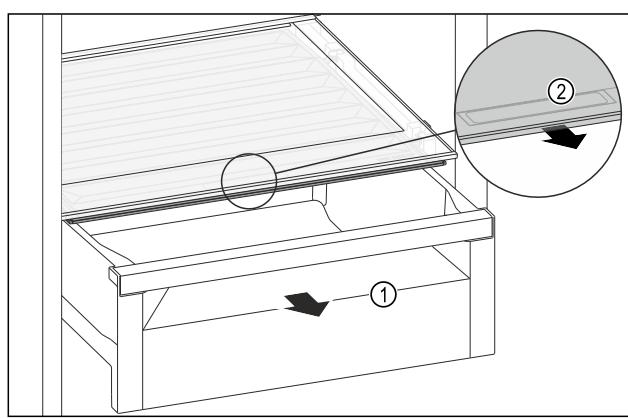

Fig. 161
- ▶ Pull out the drawer Fig. 161 (1).
- ▶ Grip the handle recess Fig. 161 (2) on the lid while pulling the lid forward at the same time.